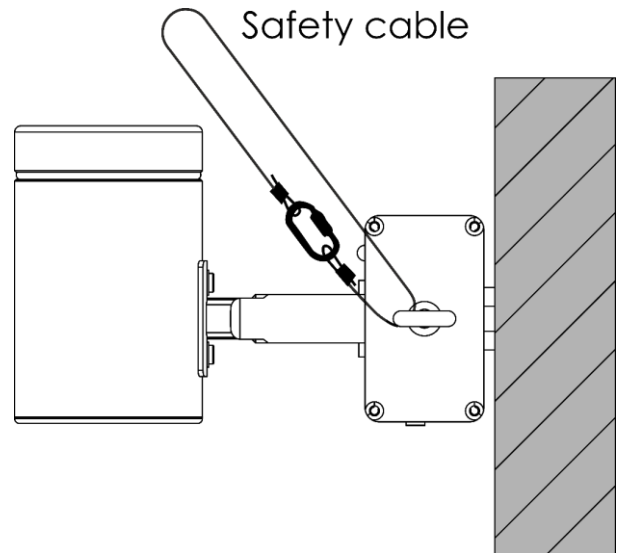

Fig. 07
Attach the device to a flat metal surface, as shown in Fig. 07. The built-in **magnet (03)** will hold the device in position.